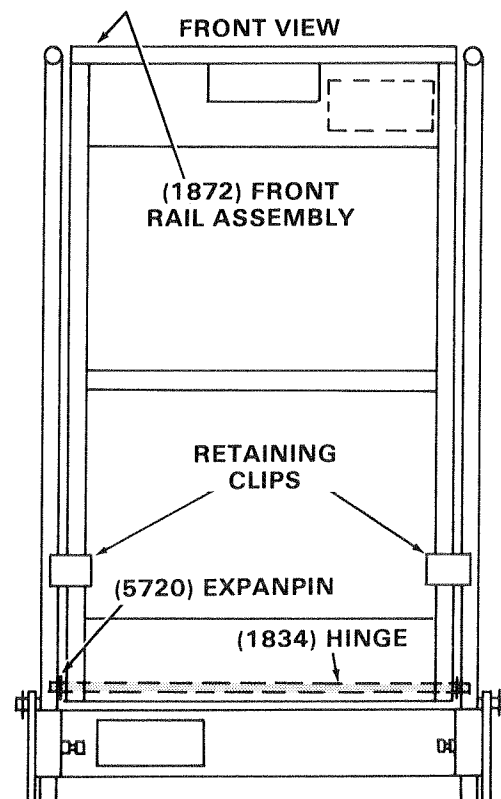

Figure 5. Installing Hinge
4. Install hinge (front rail pivot pin) as follows, Figure 5: